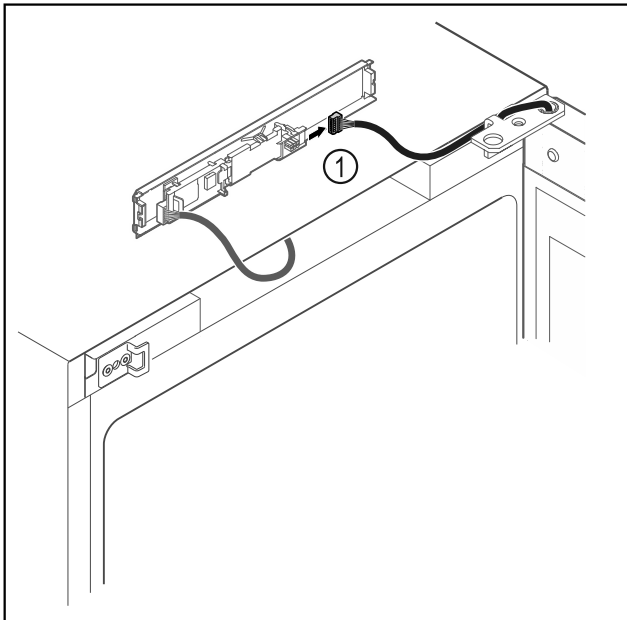

Fig. 7
- ▶ Disconnect the plug *Fig. 7 (1)* from the circuit board.